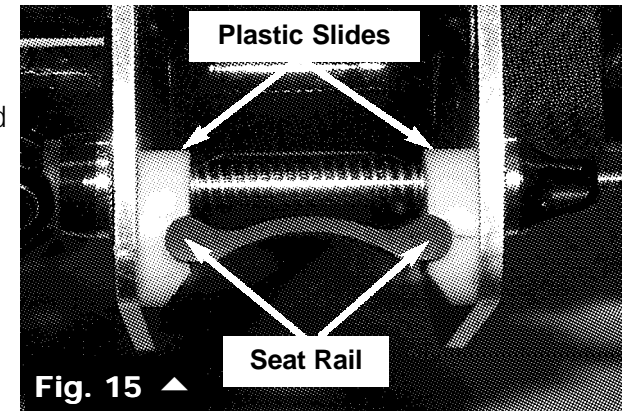

Fig. 15 ▲
**In a car:** Consider removing the seat assembly. Loosen the two quick releases and slide the seat assembly forward and off the seat rails. Removing this bulky part will ease packing. When you reinstall the seat assembly on the seat rails be sure that radius on each plastic slide lines up with the radius on each side of the seat rail. **See Fig. 15.** See also SET UP AND ADJUSTMENT section above regarding seat adjustments.